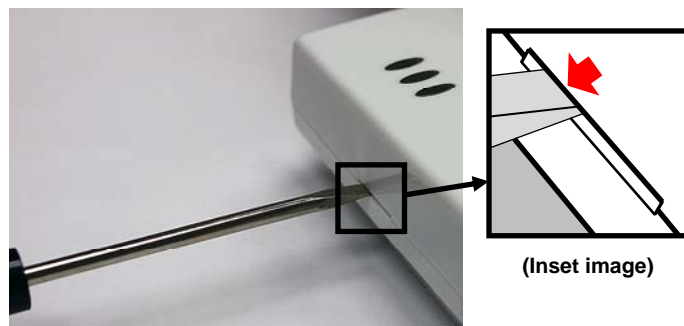

Fig. 1: To separate rear housing from cover (Inset: Insert flat-head screwdriver closer to the edges of the unit)
1. Insert a small flat-head screwdriver into the slots at the bottom and twist while applying inward pressure (see Fig. 1; insert the screwdriver closer to the edges of the unit, as shown in the Fig. 1 "inset" image).